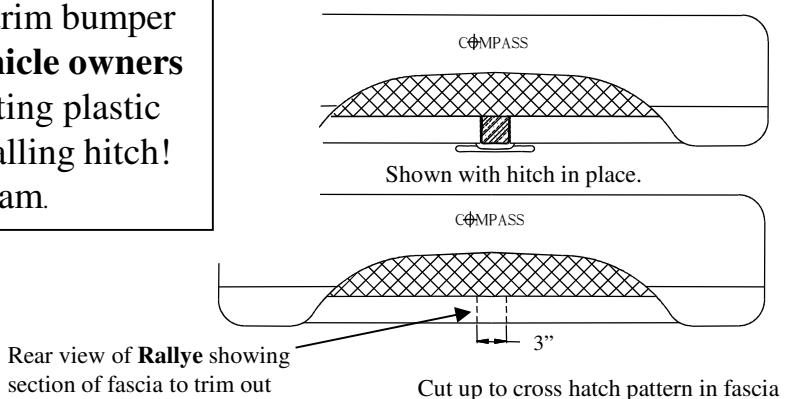

Figure 2
Compass Rallye: see Note 2 and Figure 2.
- On Compass Rallye Package only.** Use hitch receiver tube as a guide to cut a 2-1/4" wide by 2" high piece out of bumper fascia to allow clearance for ball mounts. See Figure 2.